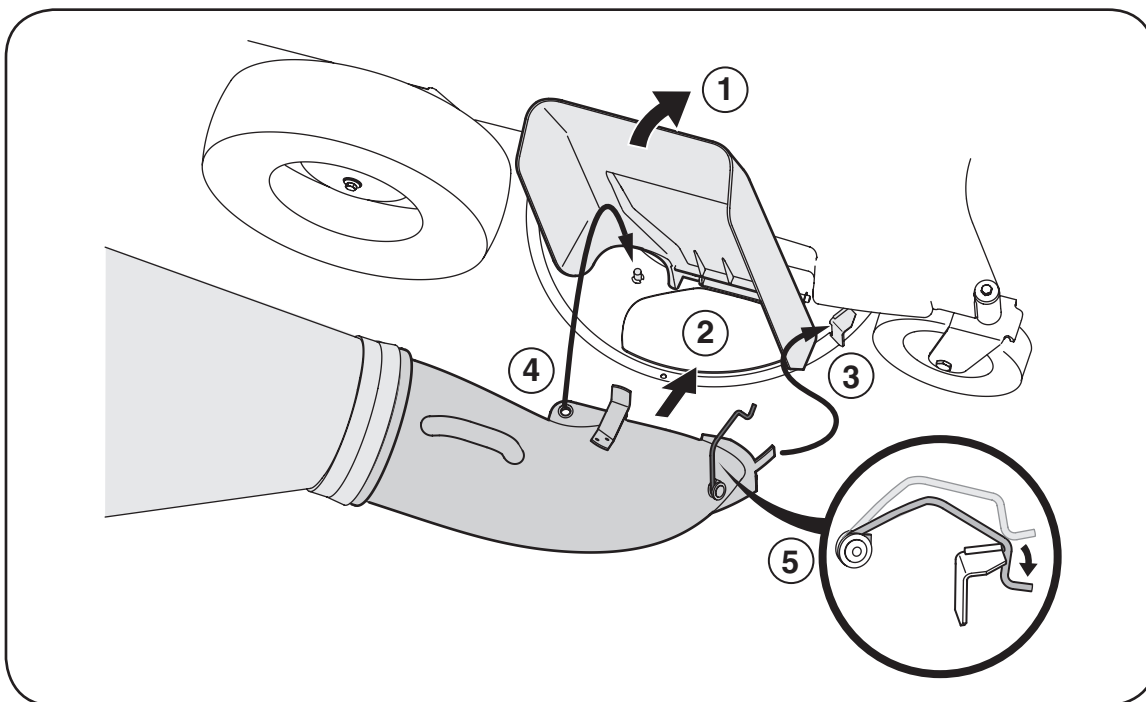

Figure 9
1. Shut the engine off and disconnect spark plug. Lift the chute deflector on the deck back towards engine, Figure 9.
2. Place the bottom lip of the chute/grass bag assembly into the lip on the deck, Figure 9.
3. Place the tab of the chute/grass bag assembly into the bracket on the deck, Figure 9
4. Lift chute/grass bag to position hole in chute over stud on the deck. The bracket on the chute will hold the chute deflector into an upright position, Figure 9
5. Push the latch over the bracket on the deck, Figure 9.